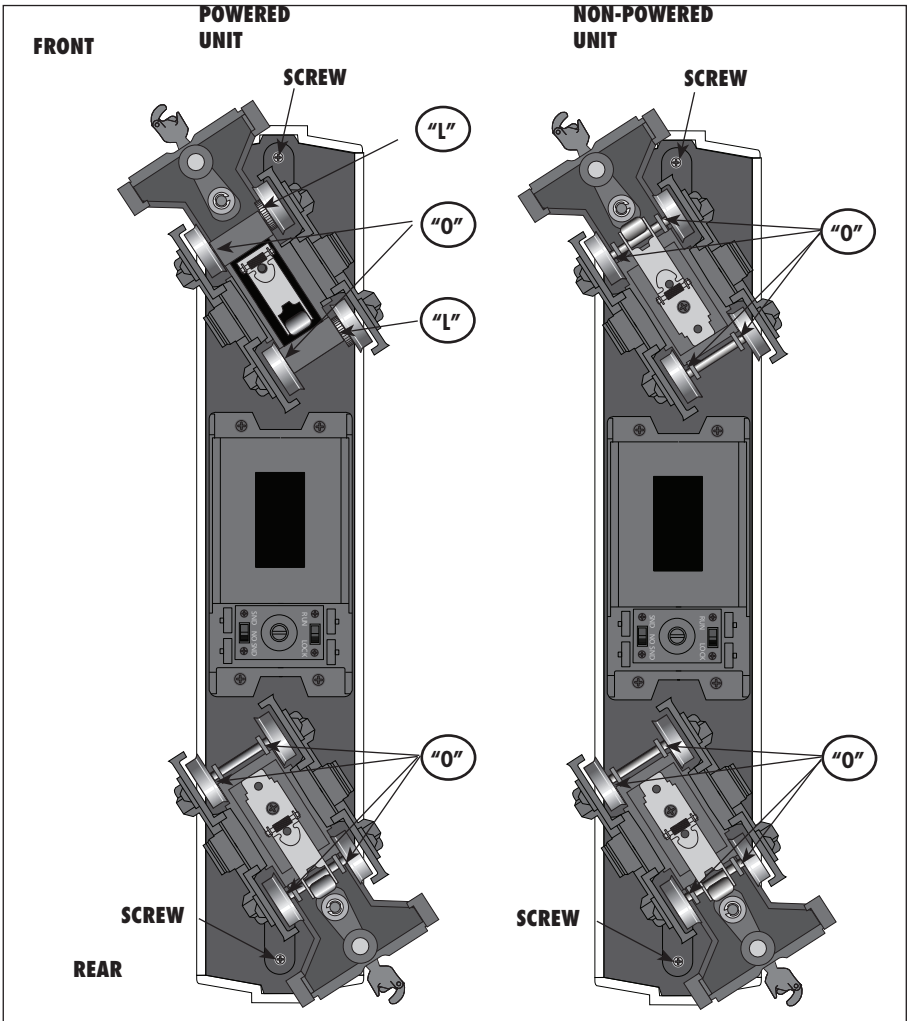

Figure 3. Underside details and lubrication points
The life and performance of your locomotives depends to a considerable extent upon proper care and lubrication of the motor and other moving parts. Since your locomotives might have been stored on the dealer's shelves for some time, be sure to lubricate them according to the lubrication chart in Figure 3 on page 8 before running them for the first time. Put a small dab of Lionel Lubricant at all points marked "L". Using the point of a pin or a thin wire, put a drop of Lionel Oil at points marked "O". Lubricate carefully but never to excess. A small amount of oil or lubricant, properly applied, goes a long way. Be careful not to get any oil or lubricant on the running surfaces of the wheels or on the rails, or your locomotive will lose traction and do not lubricate locomotive rollers.
When you find that the lubrication points illustrated in Figure 3 appear dry, lubricate your powered and non-powered locomotives after you have removed any accumulated dirt and dust. There are two basic rules to keep in mind when you are lubricating your locomotive: use only a small amount of lubrication and avoid getting grease or oil on your locomotive's wheels, roller pick-ups, or the track.
1. Remove the locomotive's body screws. See Figure 3 on page 8 for the screw locations. Carefully lift the shell away from the frame.